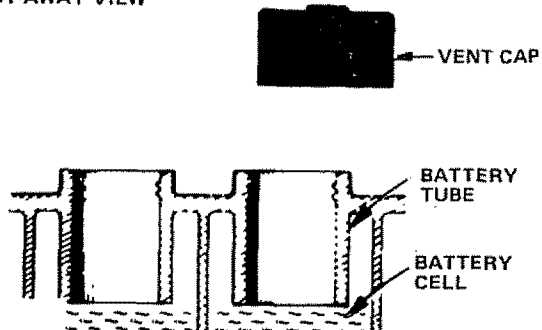

FIGURE 38
- Electrolyte solution level in each Battery Cell should be even with bottoms of tubes in cells (Fig. 38). Add only distilled water if necessary. NOTE: DO NOT OVERFILL. DO NOT ADD ACID.